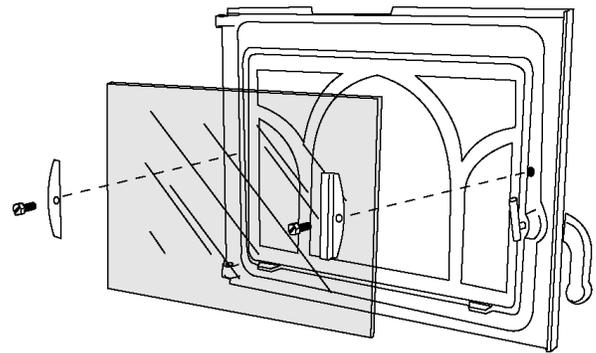

Figure 16. Glass and Gasket Replacement
2. Center the new glass panel over the gasket and reinstall the glass clips. **See figure 16.**